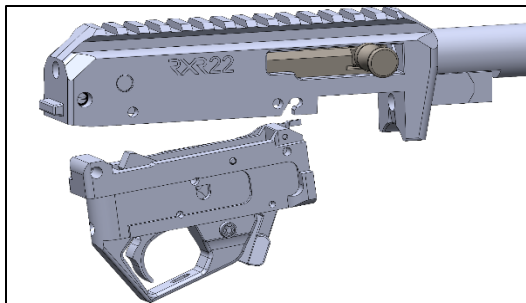

Figure 26
- Rotate the trigger group down and pull slightly rearward to disengage the trigger group from the receiver – Figure 26.